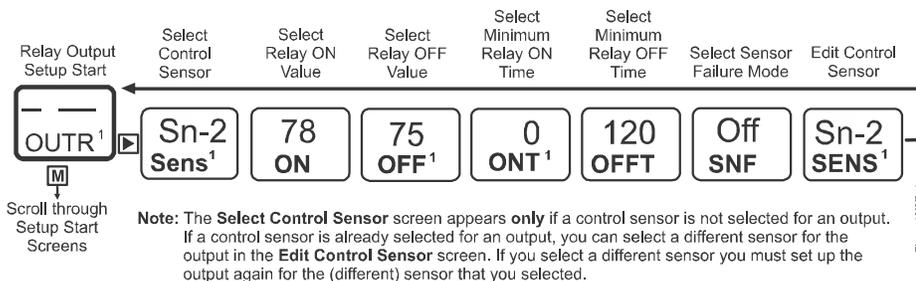

Figure 22: Relay Output Setup Start Screen and Setup Screen Flow
When you supply power to a module assembly, the control module polls all of the connected modules, detects all of the outputs in the module assembly, then assigns an output number to each output, and enables a **Relay Output Setup Start (OUTR^x)** screen for each relay output detected (Figure 22 on page 49).
1. Access the System 450 UI and navigate to the desired **Relay Output Setup Start (OUTR^x)** screen (Figure 22). (See *Accessing and Navigating the User Interface* on page 42.)